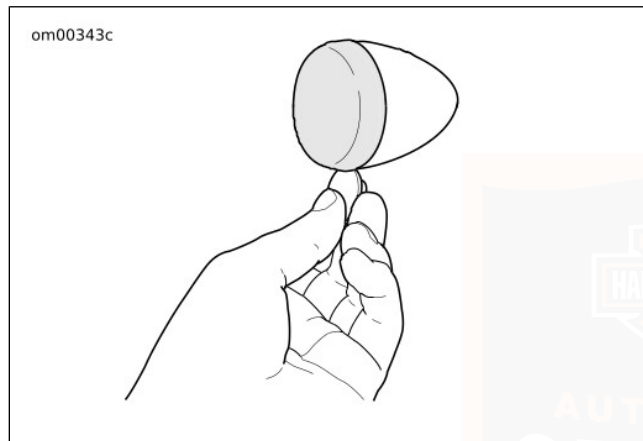

Figure 103. Remove Lens
1. See Figure 103. Insert coin in notch. Carefully twist until the lens cap pops out of the lamp housing.